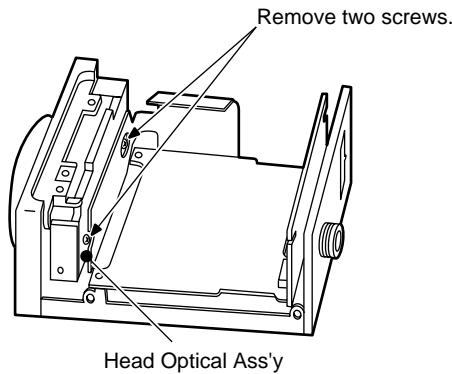

Fig. 3-1
- Referring to Fig. 3-1, remove two screws that secure the Head Optical Ass'y and remove the Head Optical Ass'y.